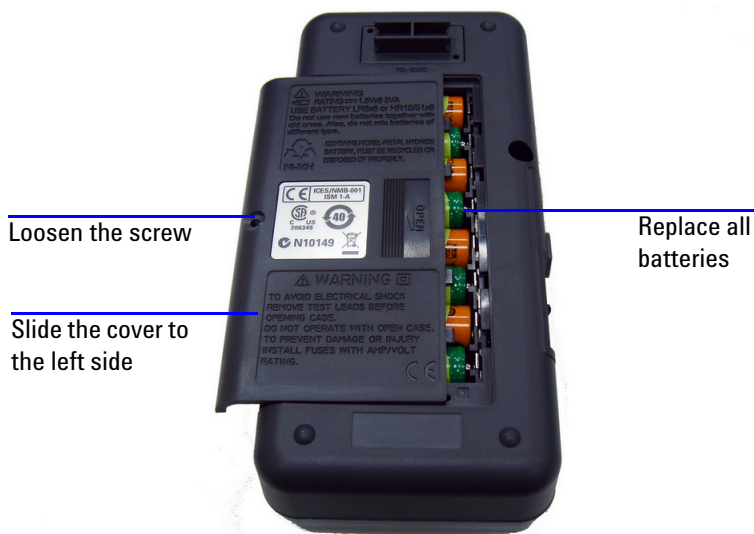

Figure 6-1 Battery replacement
- 2 Slide the cover to the left, pull it up, and remove it. See Figure 6-1.